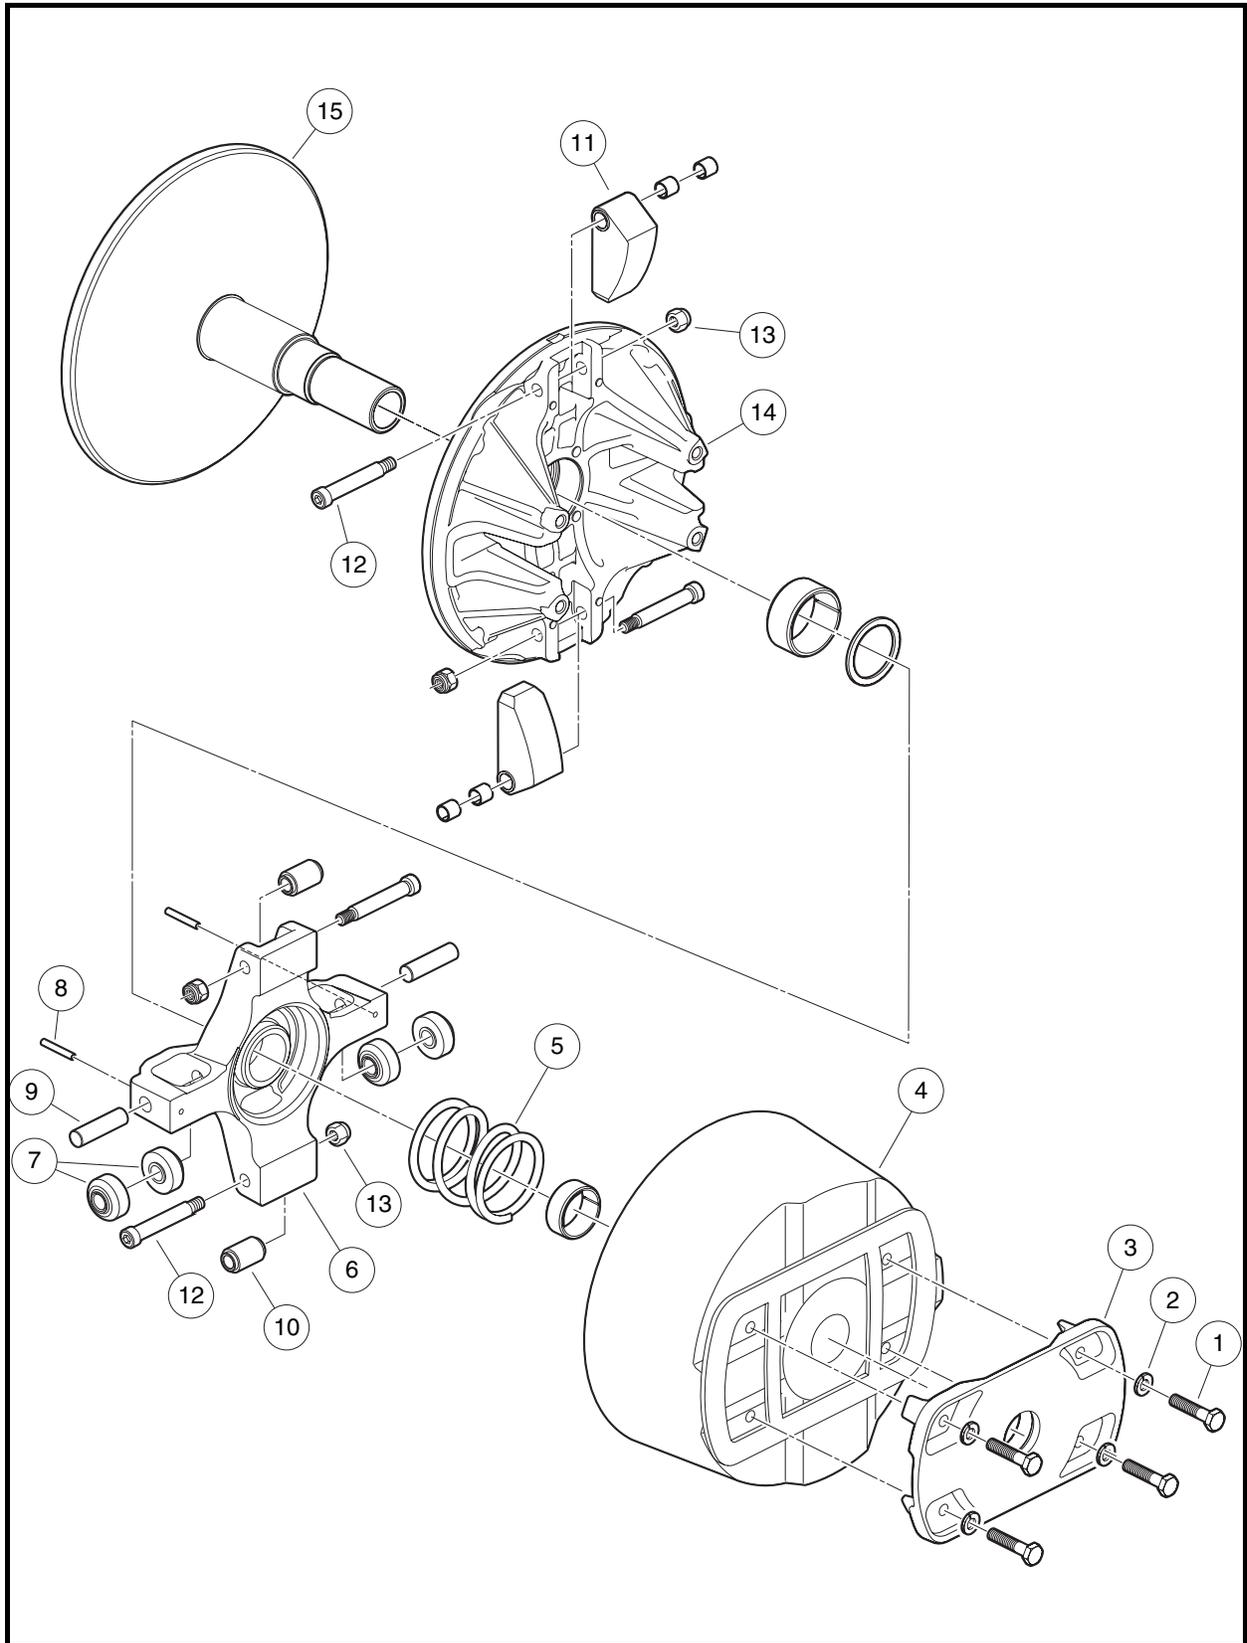

Figure 13b-37 Drive Clutch Assembly
7. Use a 1/2-inch drive ratchet to disengage the moveable sheave (14) and spider (6), which will come off as an assembly, from the fixed sheave (15) (**Figure 13b-37, Page 13b-33**).
1. Use a feeler gauge to inspect the torque rollers (7), and replace the rollers if necessary (**Figure 13b-37, Page 13b-33**).